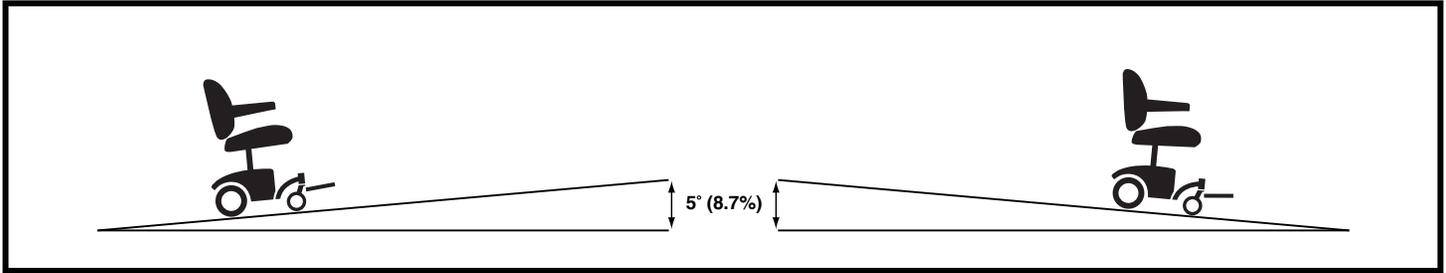

Figure 2. Maximum Allowable Incline Angle (Ascending and Descending)
Handicap public-access ramps are not subject to government regulation in all countries, and therefore do not necessarily share the same standard degree of slope. Other inclines may be natural or, if man-made, not designed specifically for power chairs. Your power chair's ability to travel up inclines is affected by your weight, travel speed, angle of approach to the incline, and your power chair setup, including seat configuration. Therefore, we recommend that the maximum slope of an incline you attempt to safely ascend or descend on your power chair does not exceed 5° (8.7%) or the maximum allowable incline listed in the product specifications. **See figure 2.**
**WARNING!** Your power chair has been tested in accordance with certain ANSI-RESNA and ISO standards, and may have the ability to climb slopes steeper than that illustrated in figure 2. However, you should not exceed the performance specifications of your power chair as noted in the product specifications.